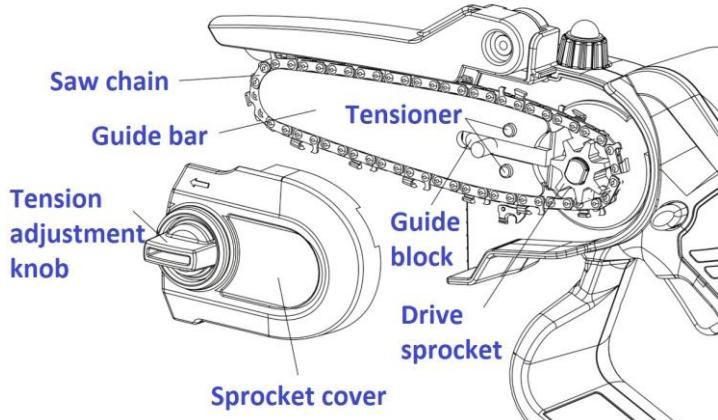

Fig. 14
- Replace saw chain (Fig. 14):
- 2) Loosen the chain tension adjustment knob (11).
- 3) Remove the sprocket cover (10) and tension adjustment knob (11).
- 4) Remove the saw chain (13) and guide bar (12).
- 7) Restore the sprocket cover (10) on the chainsaw.
- 8) Securely tighten the sprocket cover (10) with the tension adjustment knob (11).